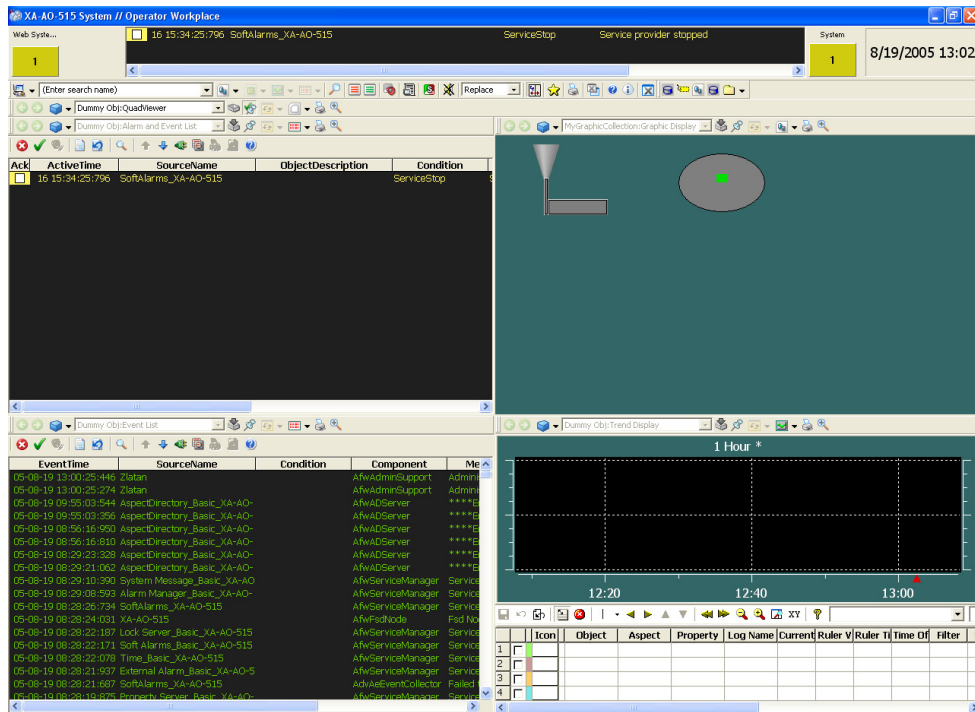

Figure 98. Main View of the Quad Display
3. Click **Apply**. The result will look like Figure 98.